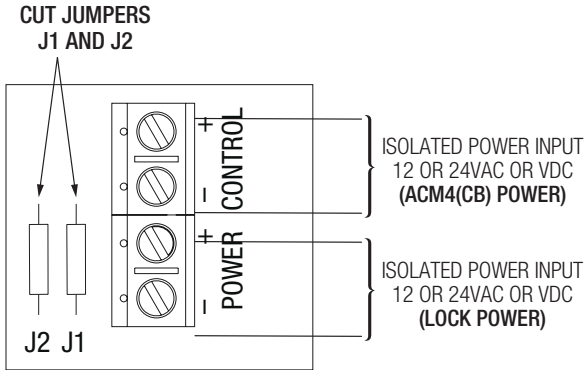

Fig. 3
5. **Fire Alarm Interface options** (Figs. 3 through 7, pg. 6 - 7):
Connect the positive (+) and negative (–) from the FACP signaling circuit output to the terminals marked [+ INP –]. Connect the FACP EOL to the terminals marked [+ RET –] (polarity is referenced in an alarm condition). Jumper J3 must be cut (Fig. 3, pg. 6).
FACP INTERFACE T, + INPUT –	Fire Alarm Interface trigger input from FACP. Trigger inputs can be normally open, normally closed from an FACP output circuit (Fig. 3 through 7, pg. 6-7).